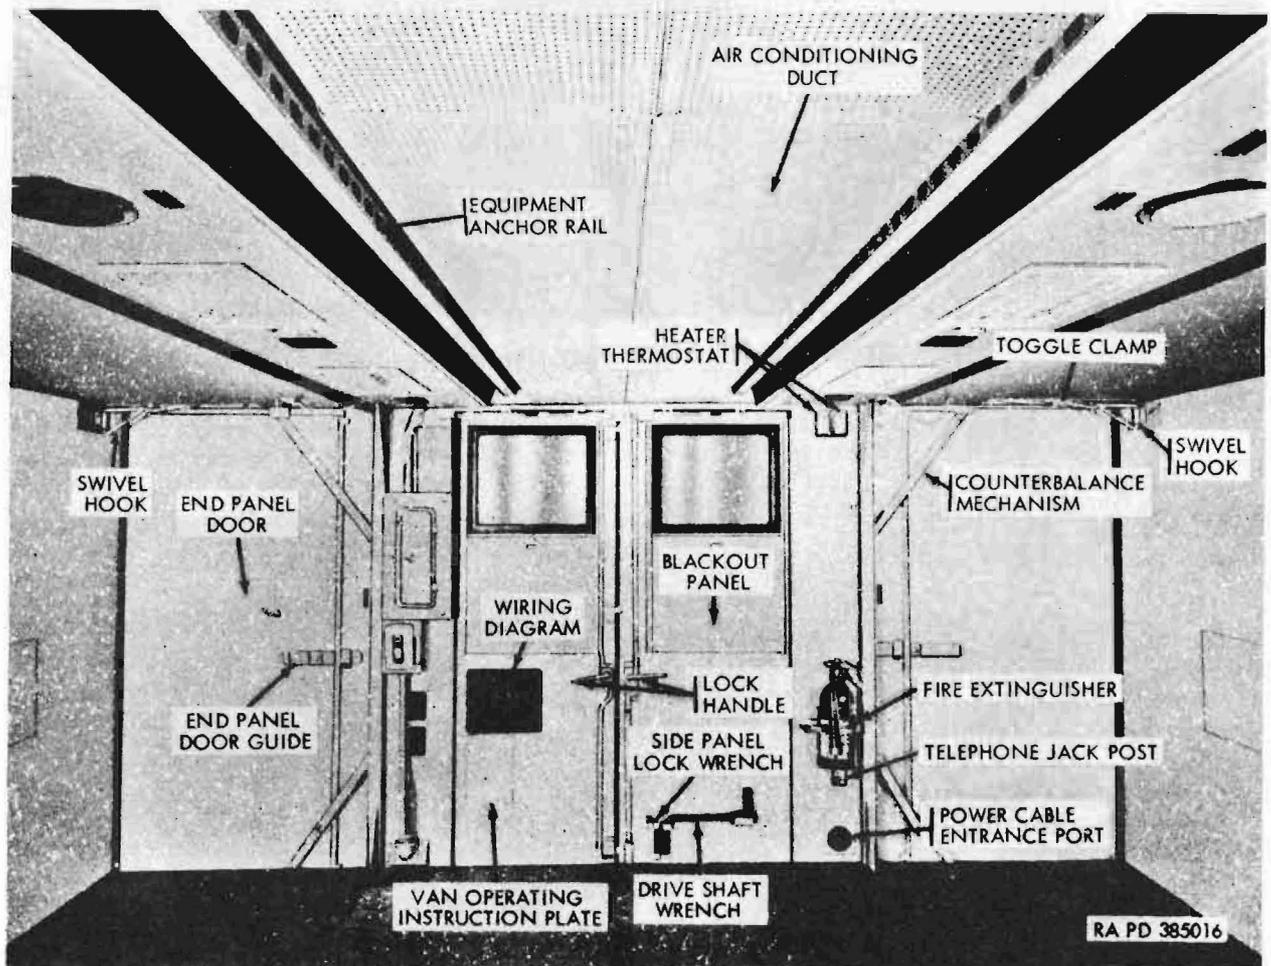
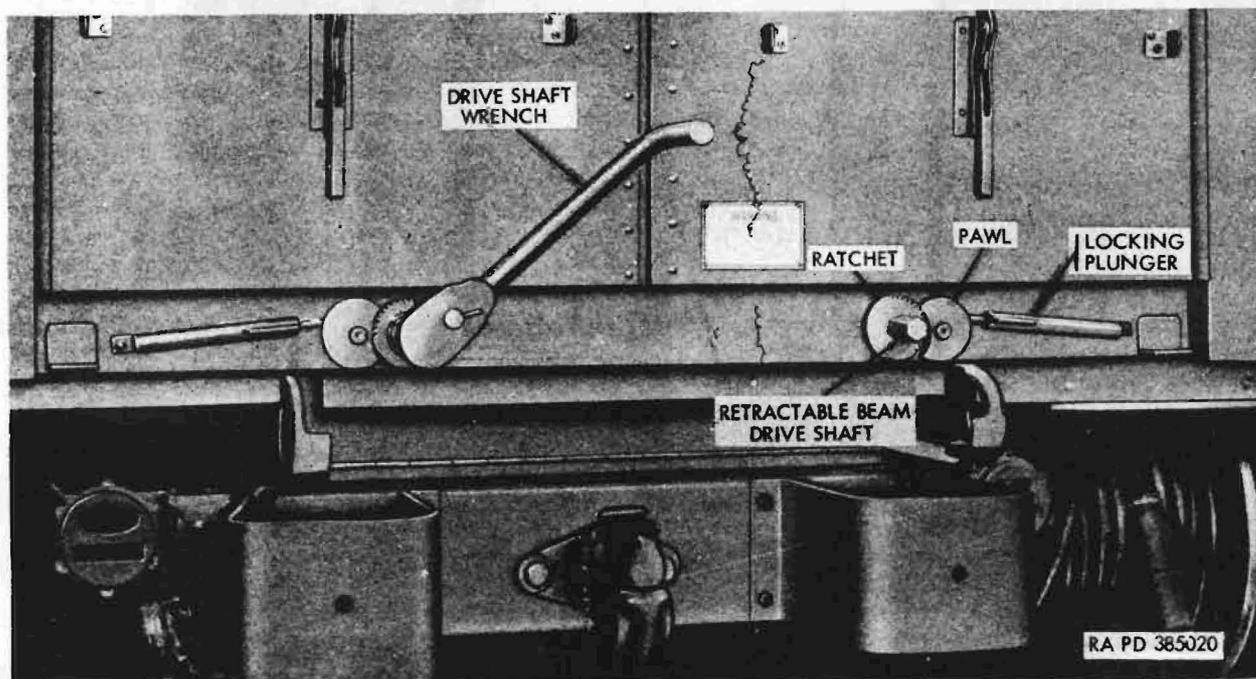

Figure 75. Van body in expanded position rear interior view
Figure 78. Retractable beam drive shaft locking mechanisms
(2) Side and rear door locks (figs. 75 and 76).
stowed in a bracket on the inside of the left rear door as shown in figure 75.
- (4) Retractable beam drive shaft-locking mechanisms. Two retractable beam drive shaft-locking mechanisms (fig. 78), attached to the van rear cross-member, are used to secure the side panels in both the expanded and retracted position by locking the beam drive shafts against rotation. Each mechanism consists of a ratchet fixed to the shaft, crescent-shaped pawl, and spring-loaded locking plunger. To release both mechanisms before expanding the side panels, push the locking plungers downward. To lock both mechanisms after the side panels have been expanded or retracted, push the locking plungers upward.
- (5) Retractable beam drive shaft wrench. The retractable beam drive shaft wrench (fig. 78) is fitted to the ends of the retractable beam drive shaft protruding from the van rear cross-member to expand and retract the van side panels. To expand the left side panel, fit the wrench to the left shaft end and turn the shaft in a counter-clockwise direction. To retract the left side panel, turn the shaft in a clockwise direction. To expand and retract the right side panel, turn the right shaft in clockwise and counter-clockwise directions, respectively. The wrench is stowed in a clip on the inside of the left rear door as shown in figure 75.
- (6) End panel door guides. The end panel door guides (figs. 75 and 79), located on the front and rear end panel doors of the van, are used to maintain alignment of the end panel doors with the van corner posts during the van expanding procedure. To engage each guide, close the end panel door and pull the corner swivel hook inward until the inner edge of the door is parallel with the corner post, then push the guide bar into the latch on the corner post. To release the guide, withdraw it from the latch.
panel toggle clamps (figs. 75, 79, 82, and 83), located at the ends and center of each hinged roof section, are used to draw up and hold the sealing edges of the side panels tight against those of the roof sections when the van is in the expanded position. The side panels are equipped with swivel hooks for attaching the clamps. Each clamp consists of a toggle mechanism, adjustable eyebolt, and operating handle. To attach each clamp, align the opposite swivel hook with the clamp, enter the hook in the clamp eyebolt, and pull the clamp handle away from the swivel hook. To release the clamp, push the handle toward the hook and detach the eyebolt from the hook. To stow the swivel hook, turn it into the niche in the side panel and secure with the spring clip. To stow the toggle clamp,
- (22) Heater thermostats. The heater thermostats (fig. 75), located on the van left rear panel toward the top, automatically control the output temperature of the heaters. The thermostats are graduated in degrees (Fahrenheit) over a range of 50 to 100 and are marked every 10 degrees. To set each thermostat, turn the control knob until the desired temperature is indicated by the pointer.